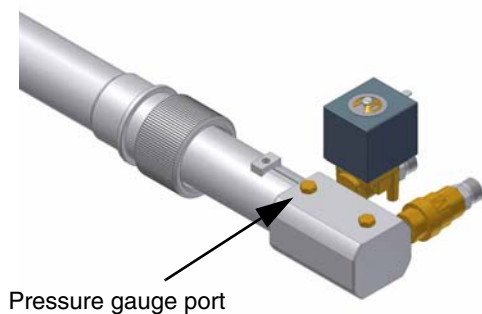

Fig. 21
- 10 the nozzle supply pressure is already factory-set and must not be changed. Only if necessary, adjust the supply pressure as follows (see related paragraph); insert a pressure gauge into the port showed on Fig. 21 and act on on the pump adjusting screw **VR** (see Fig. 20) as to get the nozzle pressure at 20bar or 25bar (according to the nozzle model: Bergonzo or Fluidics nozzles - see page 18).